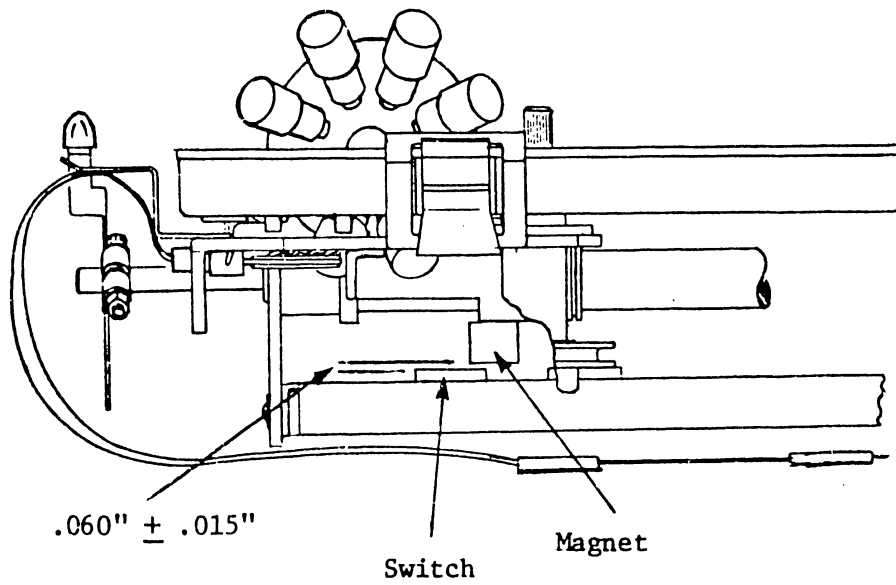

FIGURE 5-15 REED SWITCH MAGNET
- 2) Loosen the four screws holding the reed switch bracket to side frames and move assembly up or down to adjust for $.060'' \pm .015''$ ($.152 \text{ cm} \pm .038 \text{ cm}$) gap between magnet and reed switch packages (Figure 5-15).
5.3.8 Reed Switch Magnet (Figure 5-15)